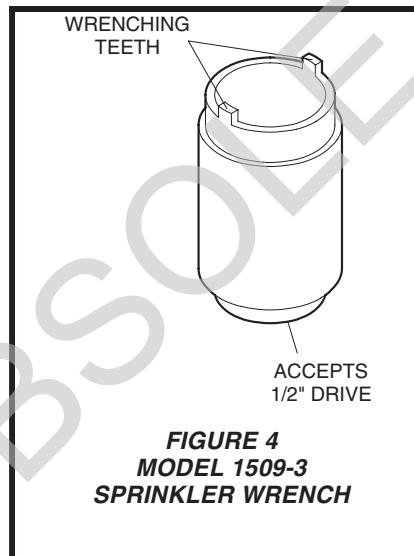

FIGURE 4
Step 3. Wrench tighten the Sprinkler using only the Model 1509-3 Sprinkler Wrench (Ref. Fig. 4). The wrenching teeth of the Sprinkler Wrench are to be applied to the sprinkler wrenching notch areas (Ref. Fig. 1).